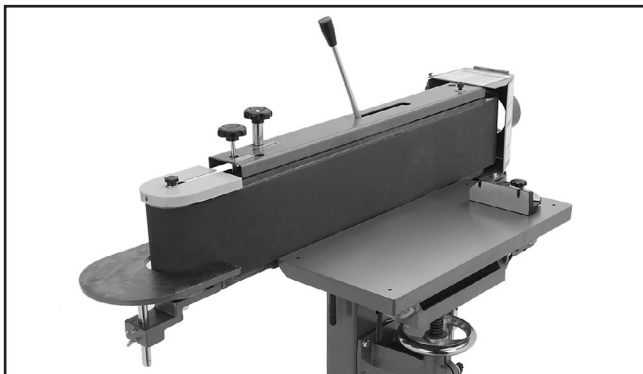

Figure 42. Sanding belt installed.
5. Move the tension lever back to its tensioned position, as shown in **Figure 42**.